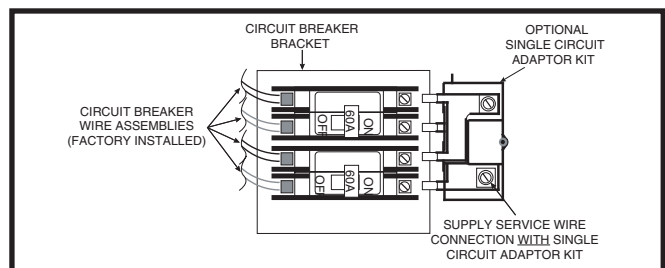
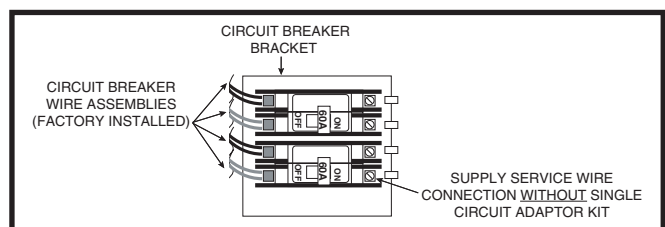

Figure 14. Optional Single Circuit Adaptor Kit
Figure 15. Installation of Supply Service Wires
- -012 models are factory-wired for single-branch supply circuit (single-circuit kit factory installed). Dual-branch circuit can be used by removing factory-installed single-circuit kit. See Figure 14 \(page 10\).
5. Insert supply service wire(s) through cable connector(s) and connect wires to circuit breakers (Figure 14 & Figure 15). **NOTE:** To install single-circuit kit, perform step 5. If single-circuit kit installation is not needed, go to step 6. A spacer has been provided that must be installed as a reinforcement where the whip/conduit enters the unit. Break this spacer in half and use the appropriate size.